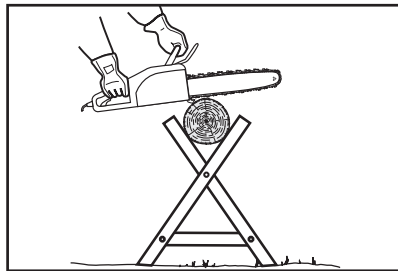

Fig. 33
- Support small logs on a sawing stand or another log while bucking (Fig. 33).